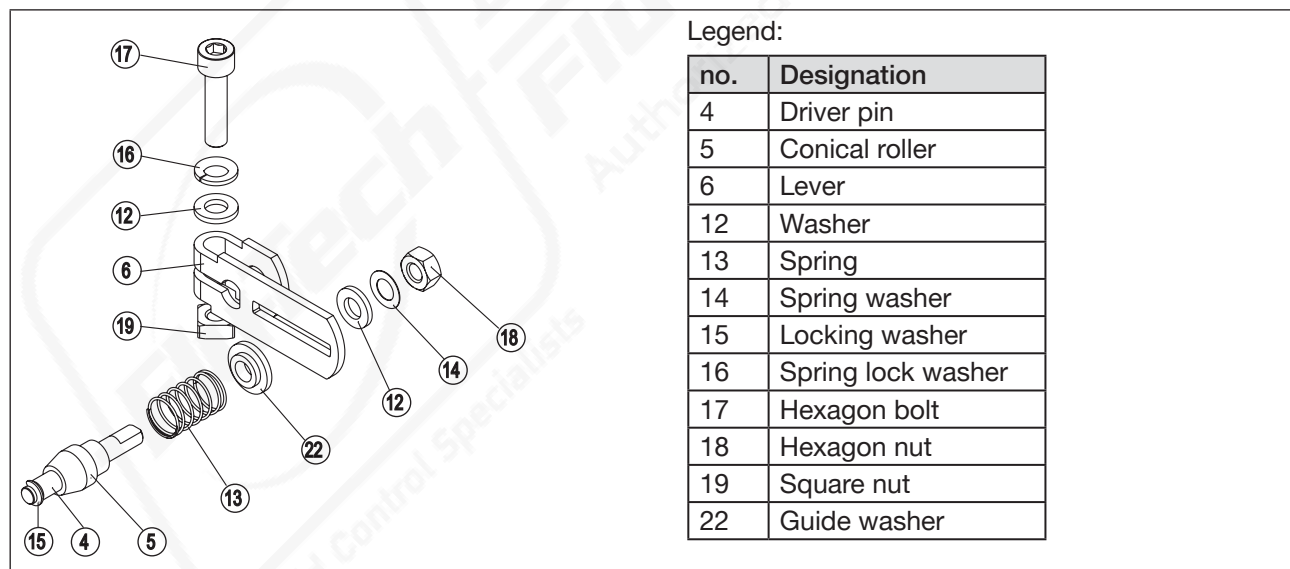

Figure 17: Mounting the lever
- Mount the hoop ② on the actuator spindle using the clamping pieces ③, the hexagon bolts ⑰ and the spring lock washers ⑯.
- Select the short lever ⑥a or the long lever ⑥b according to the stroke of the actuator.
- Assemble the lever, if not pre-assembled (see “Figure 17”).